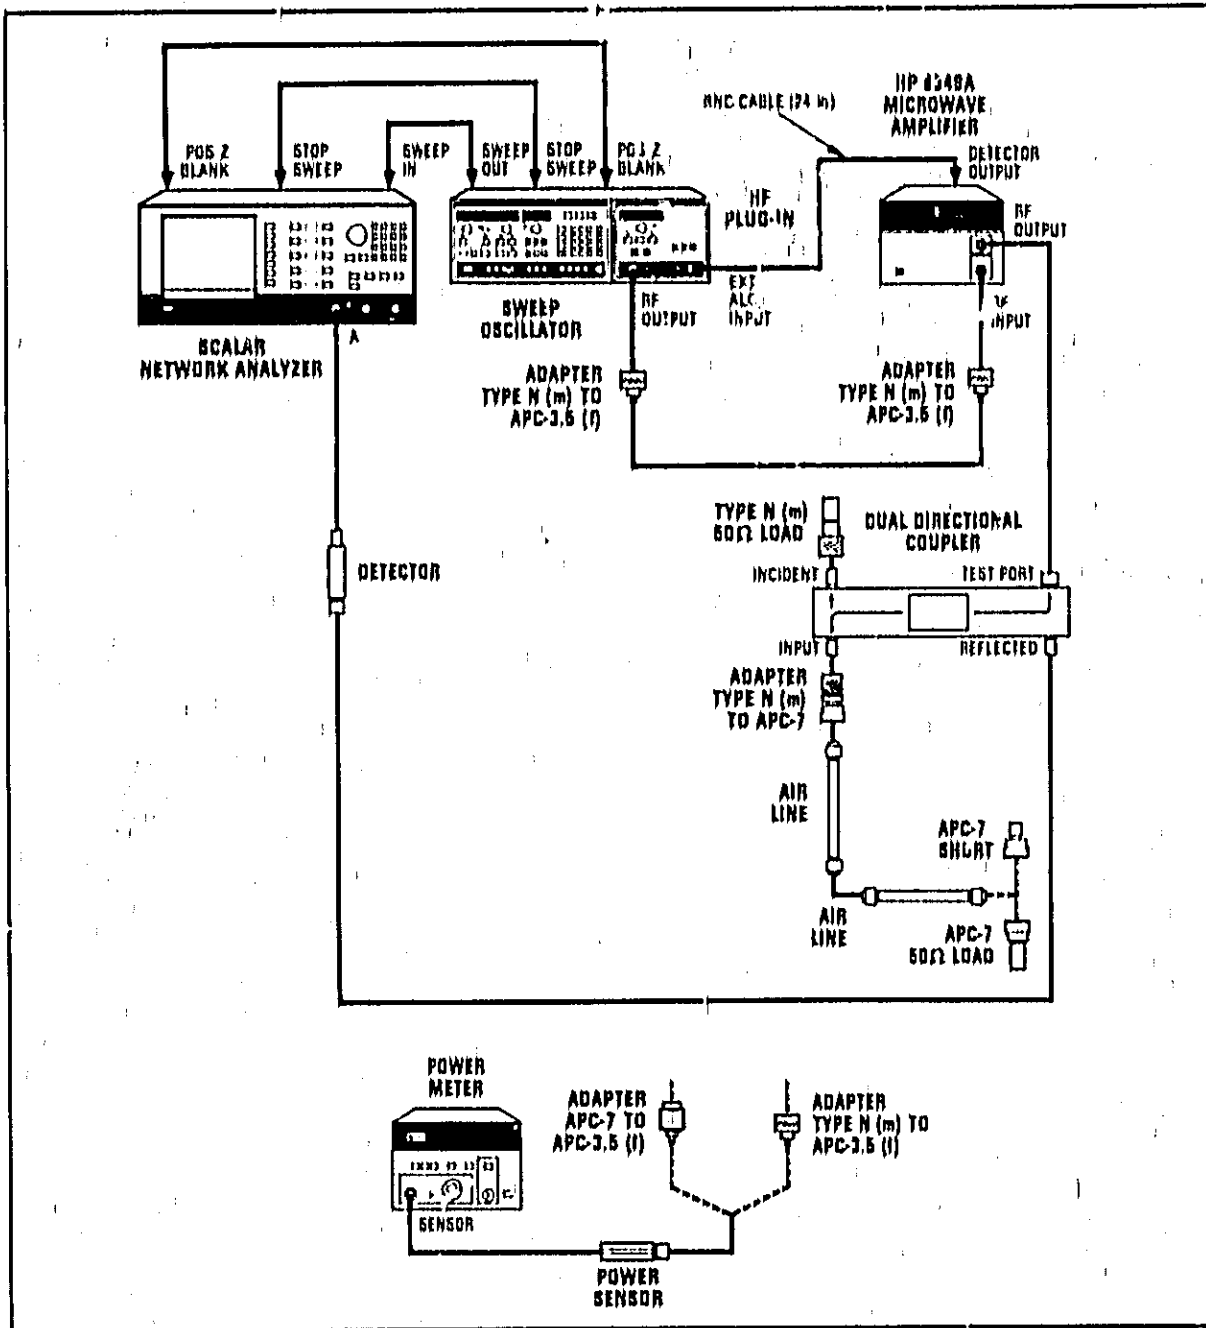

Figure 4-4. Output SWR Test Setup
9. Connect the equipment as shown in Figure 4-4 with the load connected to the air line.
12. Connect the short to the air line as shown in Figure 4-4 and set the network analyzer to display measurement minus memory.